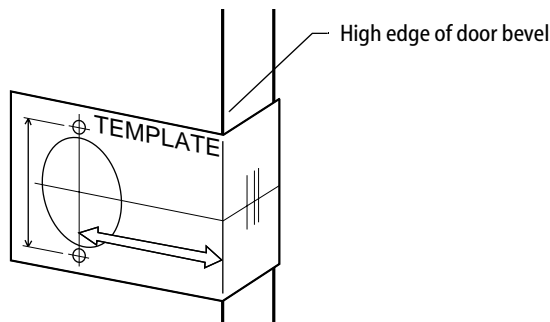

Figure 2 — Placing the template onto the door
- 1 Fold the template and place it in position on the high edge of the door bevel. See Figure 2.